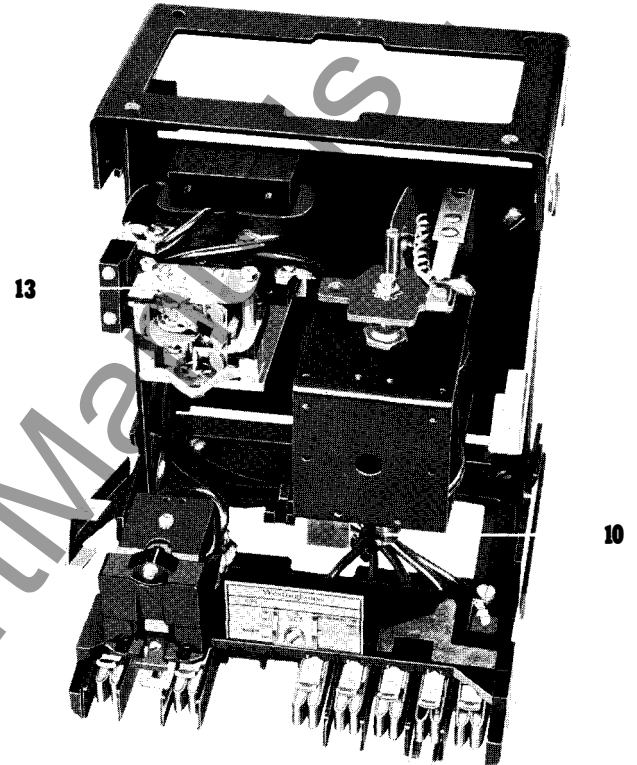

fig. 5
The SC instantaneous current unit is adjusted by setting the magnetic shunt (item 10, figure 5) to the desired value. The unit may also be set by test for a desired dropout value.
Time delay is adjusted by setting the moving contact arm pointer to the desired value on the calibrated scale (item 13, figure 5).